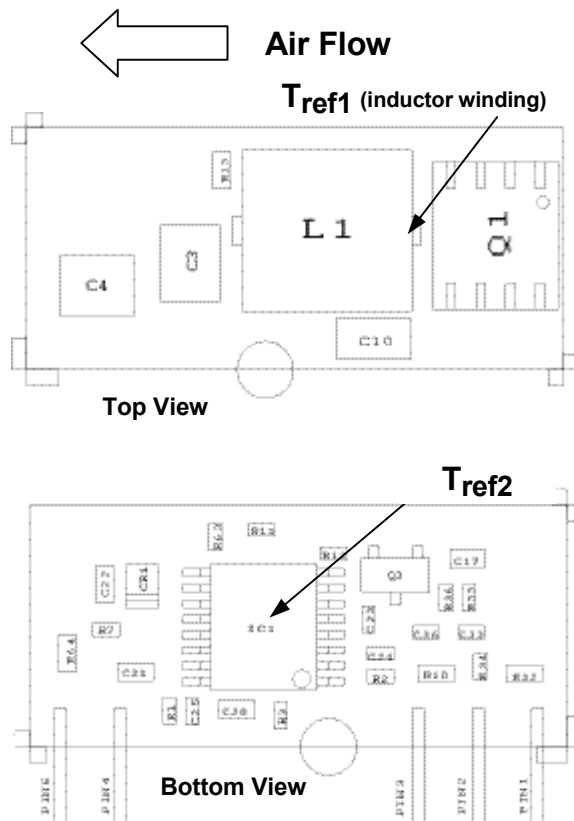
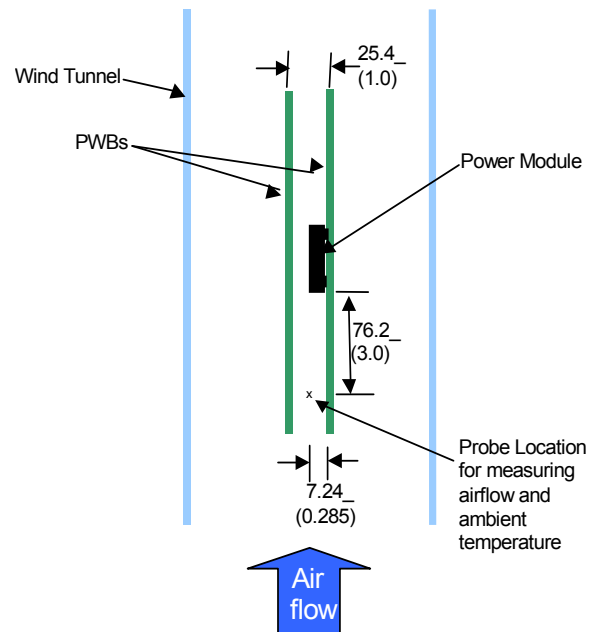

Figure 32. T_{ref} Temperature measurement location.
Figure 33. Thermal Test Set-up.
To provide over temperature protection in a fault condition, the unit relies upon the thermal protection feature of the controller IC. The unit will shutdown if the thermal reference point T_{ref2} , (see Figure 33) exceeds 140°C (typical), but the thermal shutdown is not intended as a guarantee that the unit will survive temperatures beyond its rating. The module will automatically restarts after it cools down.
Considerations include ambient temperature, airflow, module power dissipation, and the need for increased reliability. A reduction in the operating temperature of the module will result in an increase in reliability. The thermal data presented here is based on physical measurements taken in a wind tunnel. The test set-up is shown in Figure 33. Note that the airflow is parallel to the long axis of the module as shown in Figure 32. The derating data applies to airflow in either direction of the module's long axis.
The thermal reference point, T_{ref1} used in the specifications of thermal derating curves is shown in Figure 32. For reliable operation this temperature should not exceed 125°C.